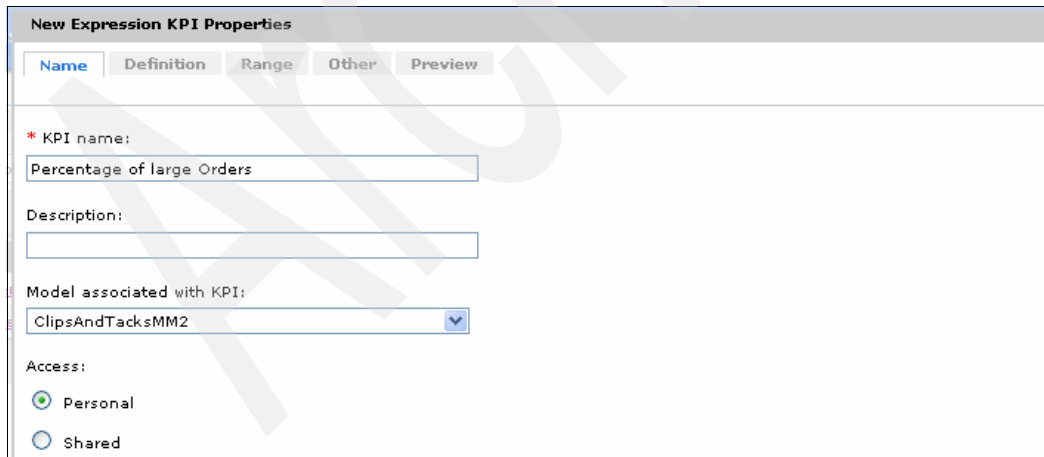

Figure 6-118 New Expression KPI Properties panel
3. In the New Expression KPI Properties panel (Figure 6-118), click the **Name** tab. For KPI name, type Percentage of large Orders. Click **OK**.